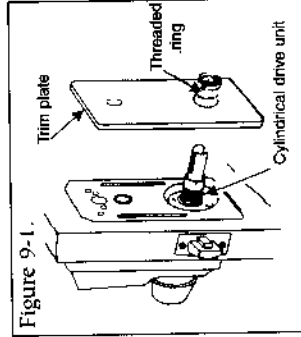

Figure 9-1.
- 1• Position the trim plate over the reinforcement plate (see Figure 9-1).